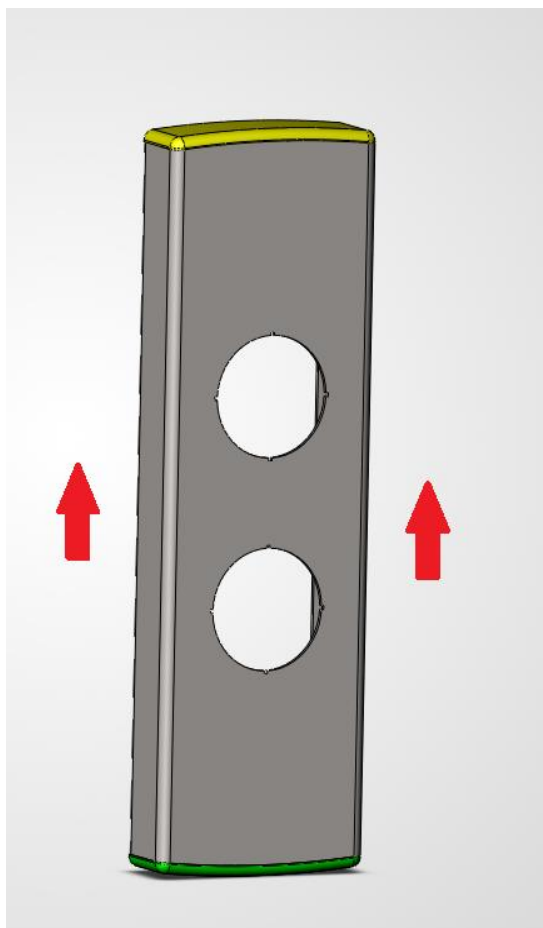

Fig. 4.2 — Push upwards to engage the lower bracket
3. Gently push the fixture upwards and press it against the wall until the lower bracket correctly engages with the corresponding slot on the lower end. (Fig. 4.2).